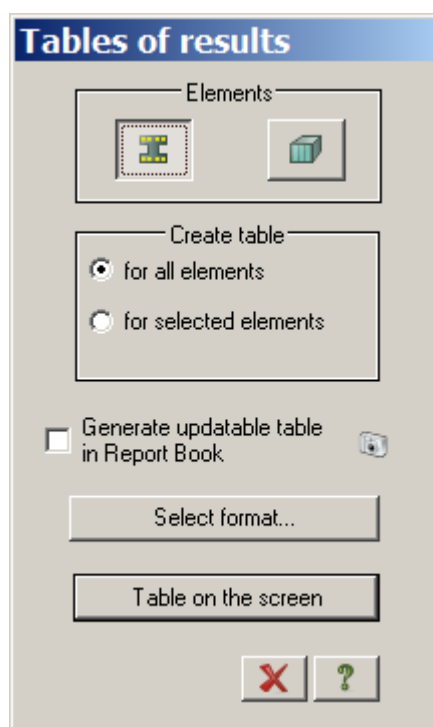

Figure 21.23 **Tables of analysis results** dialog box
- ⇒ In the **Tables of analysis results** dialog box (see Fig.21.23), the following data is mentioned by default: **Reinforcement in bars** option in the **Elements** area and **For all elements** option in the **Create table** area.